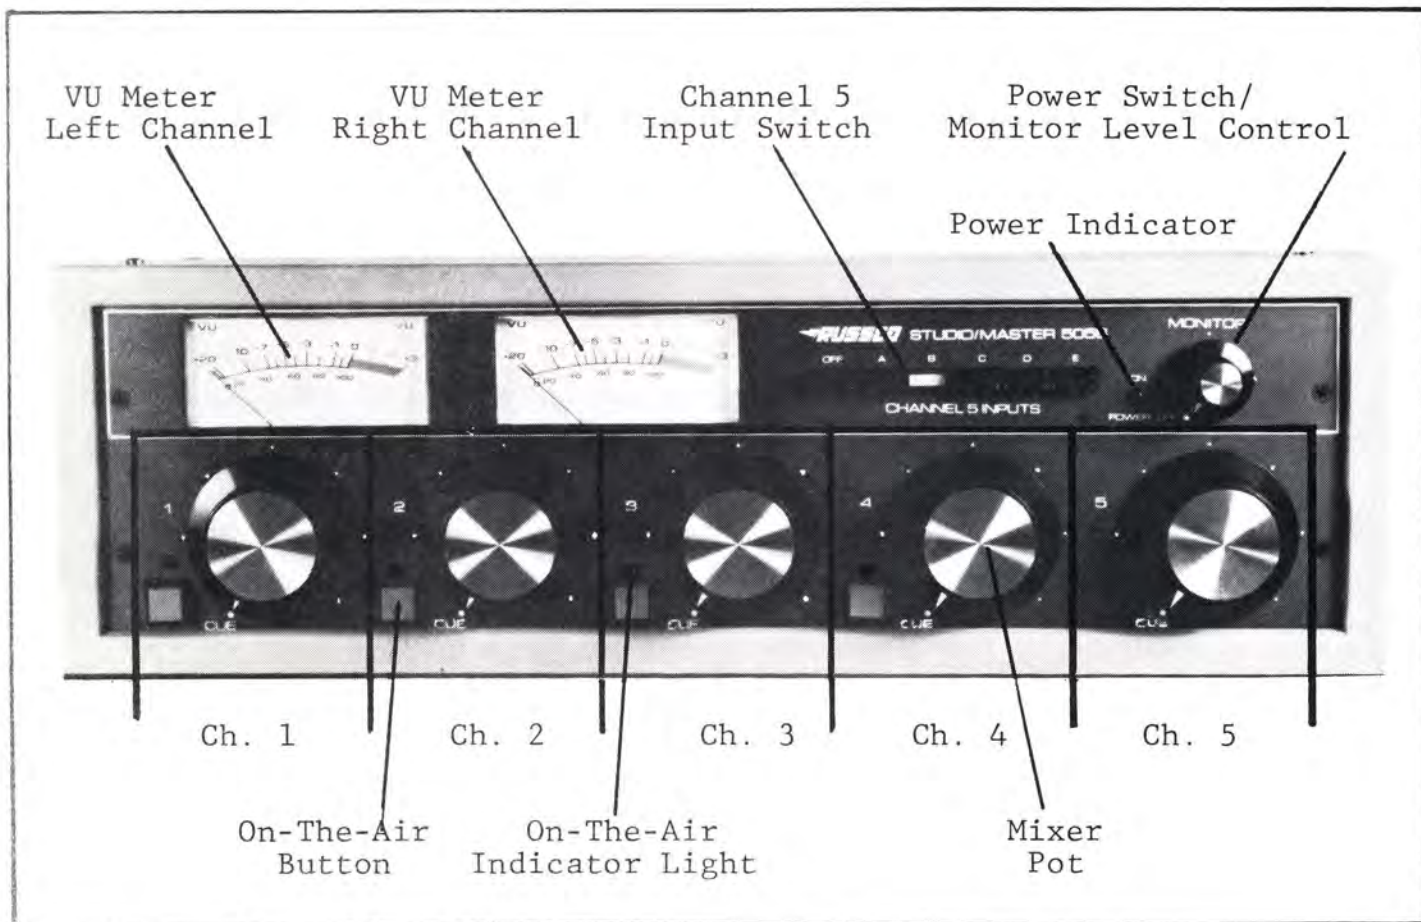

Figure 5-1. Front Panel Controls
- 5-6. Figure 5-1 illustrates front panel controls.
- 5-11. Channel 5 switches. Push-buttons are interlocked so that only one button can be engaged at a time. Pushing a button releases any other button previously engaged. Pressing the "off" button releases all buttons. Off does not have to be pressed when going from one input (A) to another (B).
- d. Remove four front panel screws and remove panel. (see figure 5-1).